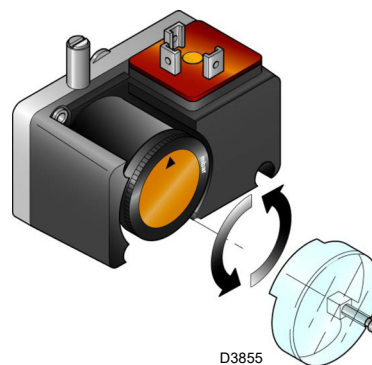

Fig. 32
- Adjust the minimum gas pressure switch (Fig. 32 at page 32) to the start of the scale.
Adjust the minimum gas pressure switch (Fig. 32) after having adjusted the burner, the gas valves and the gas train stabiliser. With the burner operating at maximum output: